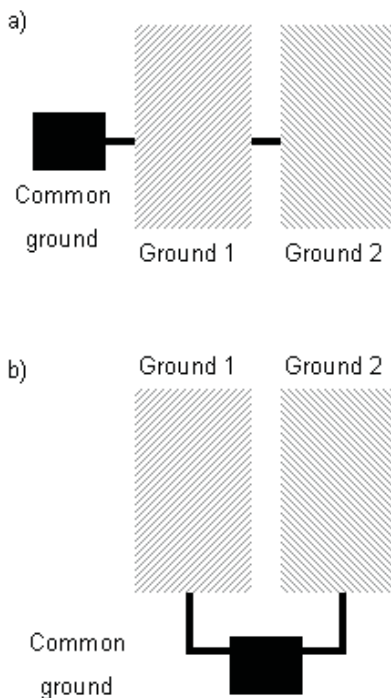

Figure 8. Poor and Good Placement of the Common Ground in a Split Ground Environment
Figure 8: Do not let one ground plane pass another ground plane to get connected to the common ground (a). Every ground plane must have its own path to the common ground to reduce noise (b).
- The return current of a subsystem (for example, an analog system or transmitter path) must not be in the path of the other subsystem (digital system or receiver path). The return current should flow directly to the common ground point (Figure 8).